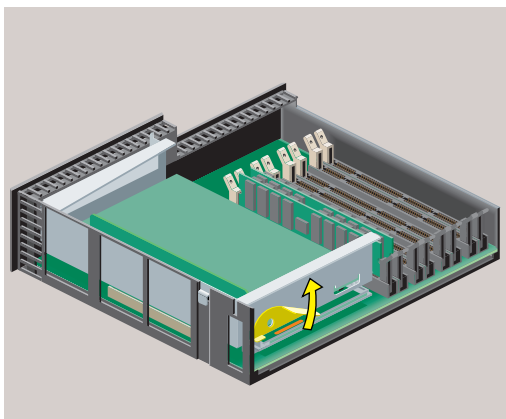

Figure 2-19 Releasing the PCI Tray
2. Release the PCI tray by pushing up the lever on the side (Figure 2-19). The tray pops up.